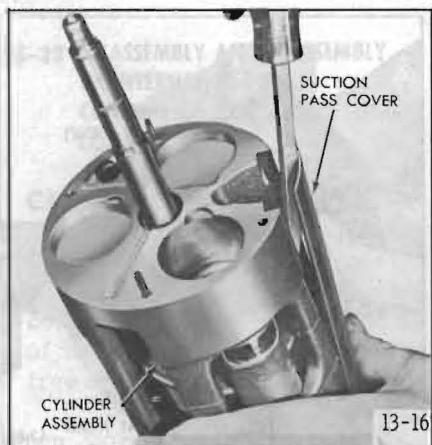

Figure 13-67—Removing Suction Pass Cover
1. Pry off suction pass cover using screwdriver (see Figure 13-67).